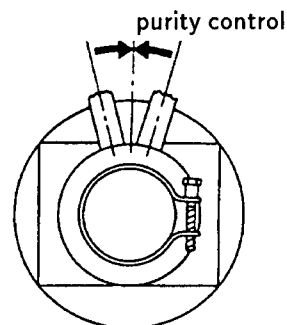

Fig.2
2. Loosen the deflection yoke mounting screw, and set the purity control to the center as shown in Fig.2